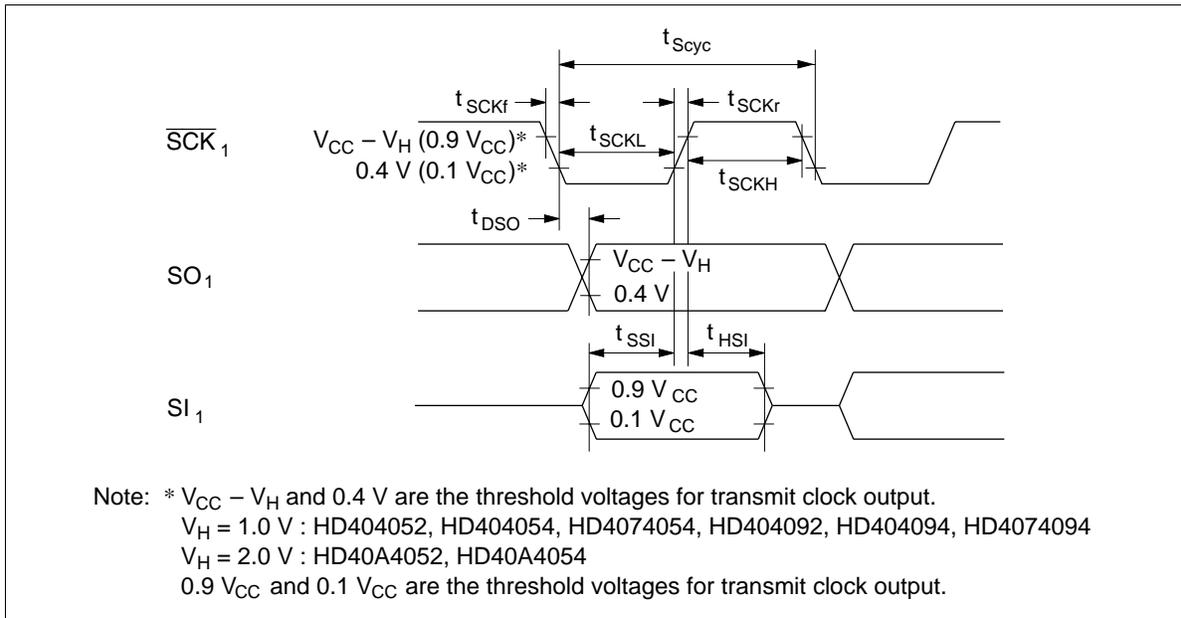

Figure 72 Serial Interface Timing
Note: 1. Refer to figure 72.
1. Refer to figure72.